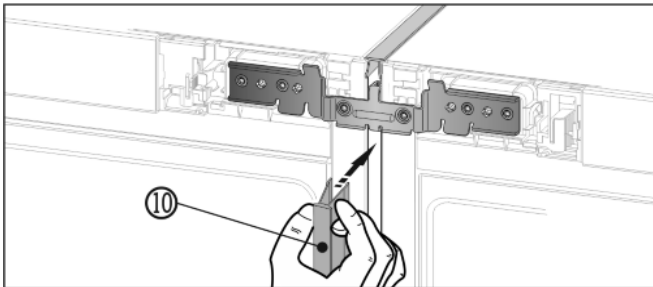

Fig. 14
- ▶ On the front, press the long trim Fig. 14 (10) into the vertical gap. Ensure that the strip rests on the connecting plate.